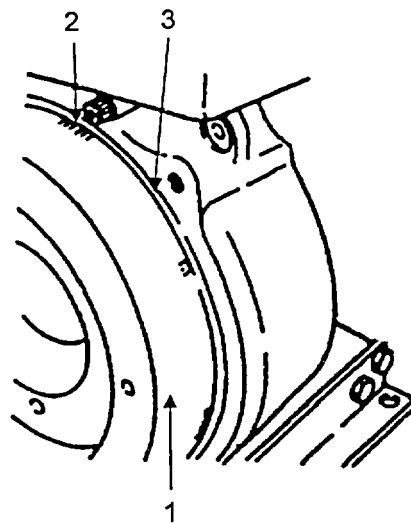

FIGURE 5-9. TIMING MARKS
- a. With flywheel timing marks (Figure 5-9, Item 2) (11.5 to 12.5 degrees) aligned with reference mark (3), rotate dial gauge 61208700 face to zero.
b. Slowly rotate flywheel (1) in a clockwise direction when facing flywheel, until dial gauge indicates the delivery lift measurement. See note above.